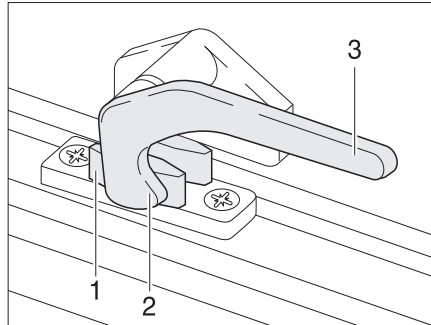

Fig. 13 Catch lever in "closed" position
- Turn the catch lever (Fig. 13,3) a quarter turn towards the centre of the window.
- Turn the catch lever (Fig. 13,3) a quarter turn towards the window frame. The locking catch (Fig. 13,2) is located on the inside of the window catch (Fig. 13,1).